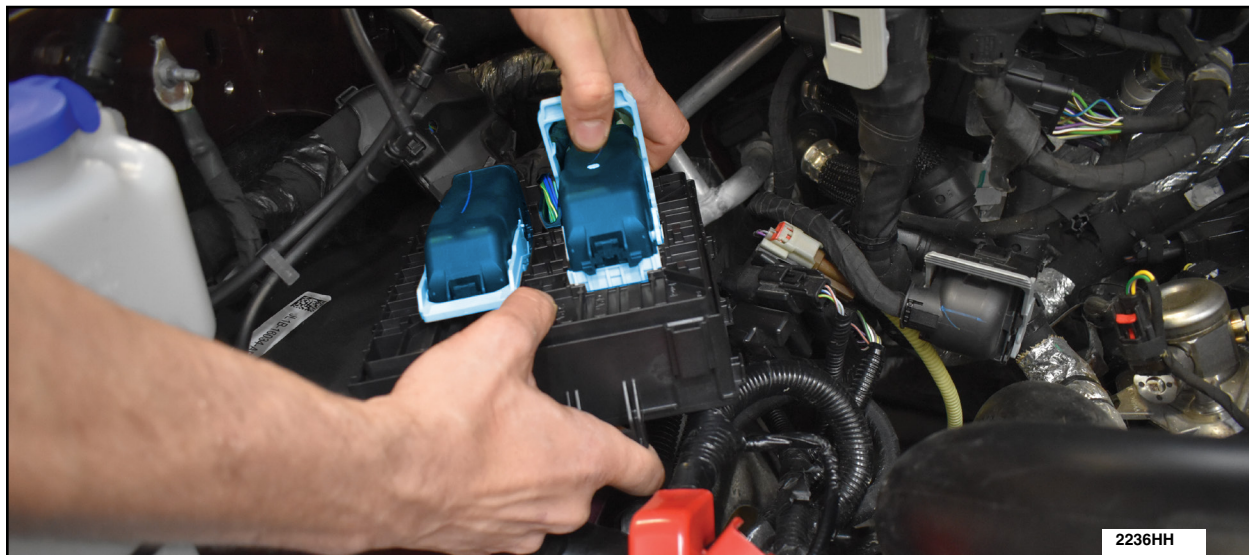

FIGURE 14
15. Disconnect the three wire harness connectors from the BJB. See Figure 14.